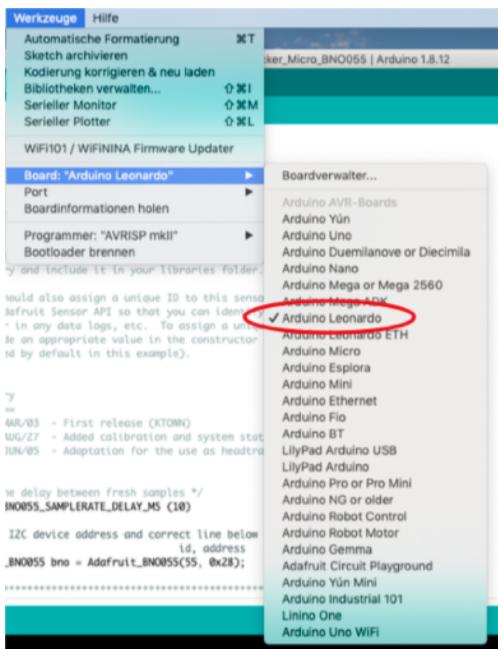

Figure 7: Board selection “(Arduino Leonardo)”
Step 9.3: To program the Arduino Pro Micro, choose the Board “Arduino Leonardo” in the tools section (Figure 7).